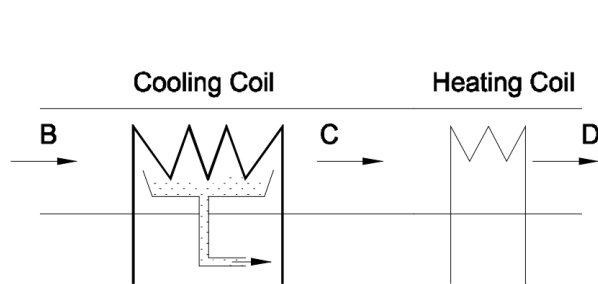
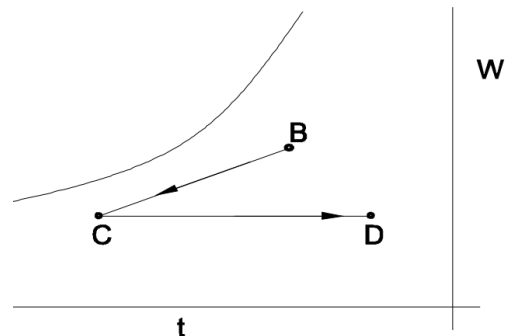

Figure 1. Air flow through a cooling coil and a heating coil
Figure 2. Cooling and dehumidifying process (B → C), and sensible heating process (C → D) on the psychrometric chart
One of the basic air conditioning processes that is applied frequently in humid hot areas is cooling and dehumidifying process. To achieve this process cooling coil is used. Cooling coil can be either direct expansion (DX) type or chilled water type. When moist air is to be cooled and dehumidified, it passes over a cooling coil whose surface temperature is equal or lower than the dew point temperature of the incoming air. Figure 1 shows a sketch of this process, and Figure 2 shows how the process looks on a psychrometric chart. Air at state B is passed over a DX cooling coil. The air leaving the coil at state C passes over an electric heater, and exits at state D. Notice that the vapour which condensate over the coil is collected at the bottom and drained out.